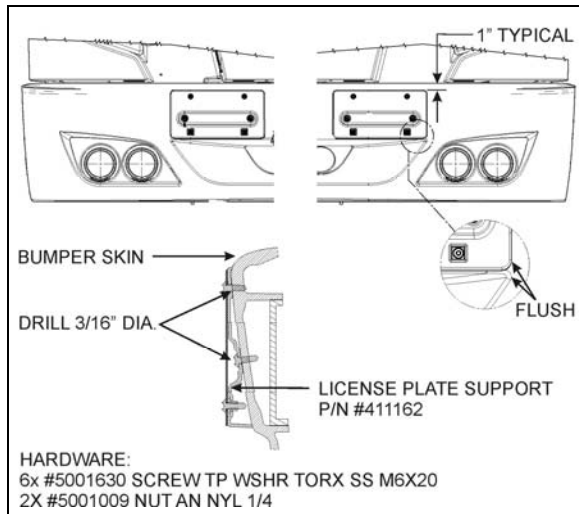

FIGURE 11: LICENSE PLATE SUPPORTS
2. Remove 4 cap screws holding bumper to vehicle and remove bumper (Fig. 11).